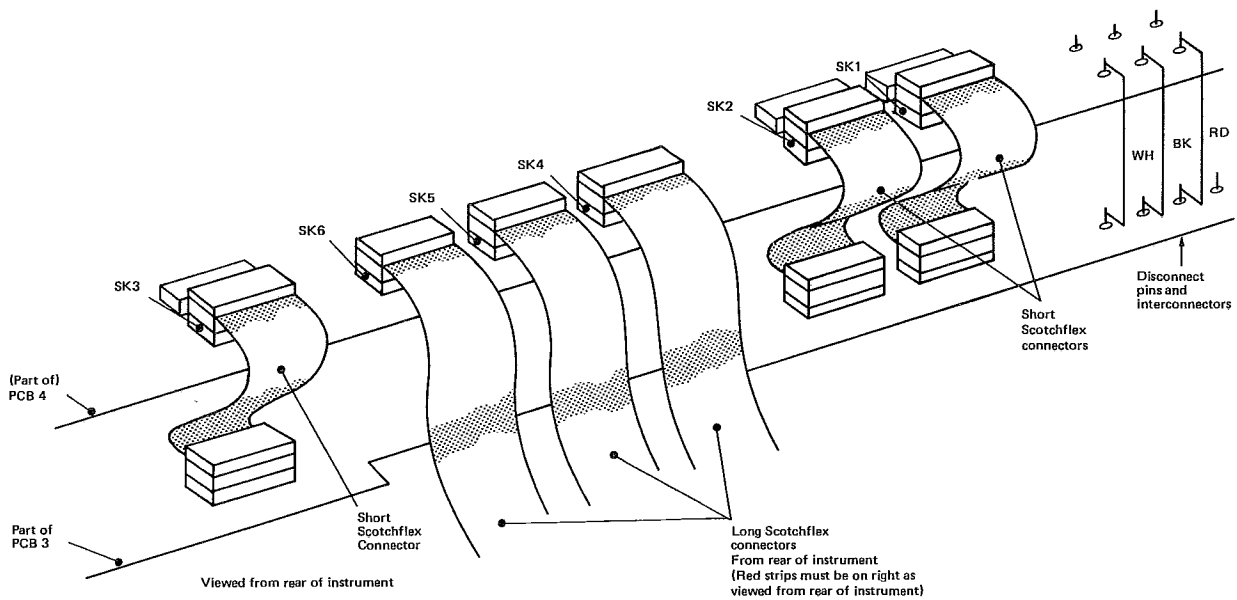

Fig. 4 PCB 4 Interconnecting leads
7. Fit the 3 disconnect leads – red (RD), black (BK) and white (WH) – to the + 5VA, 0V and 5VB disconnect pins on pcb 3 (Fig. 4). The 50Hz pin on pcb 3 is not used.
9. Connect all short and long Scotchflex connectors to the sockets on pcb 4 which are immediately in line with each connector (Fig. 4).
10. Connect the 3 disconnect leads to the appropriate disconnect pins on pcb 4 (Fig. 4).